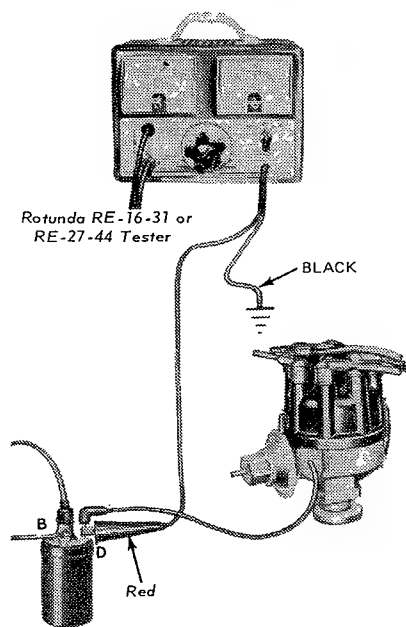

FIG. 4 Coil to Ground Test
1. Connect the voltmeter leads as shown in Figure 4.